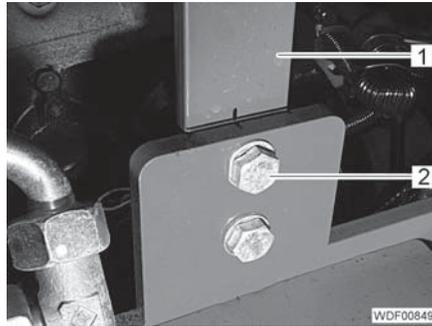

Fig. 55 Exhaust bracket attachment
- Screw in 2 screws (Fig. 55,2) on both sides.
- Adjust the exhaust bracket (Fig. 55,1) and screw in the 2 screws.